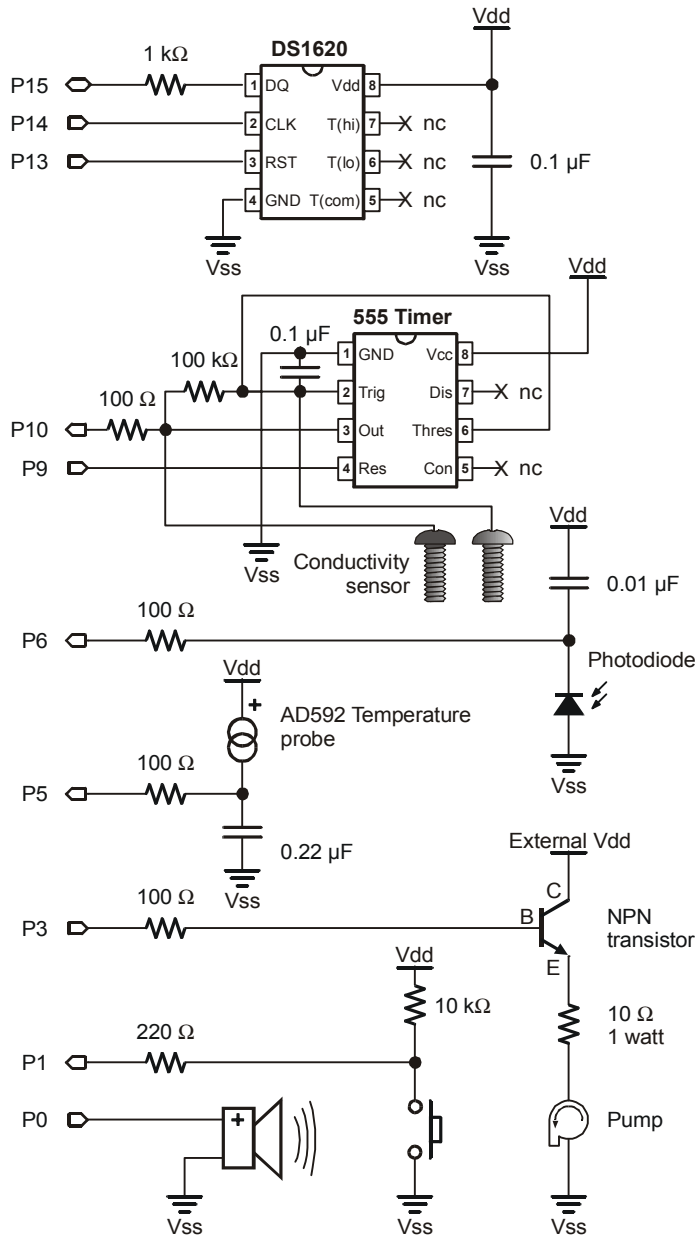
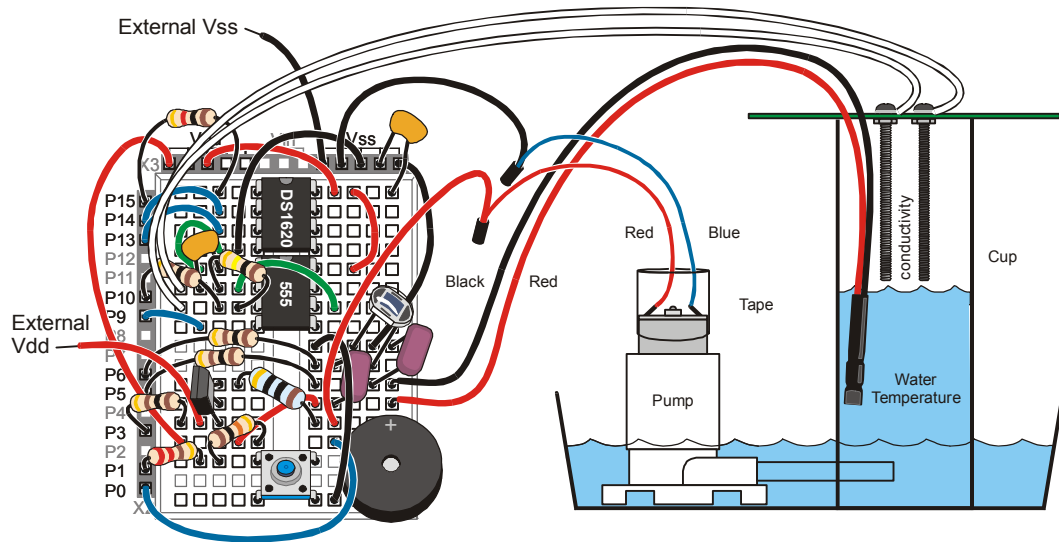

Figure 6-4
Figure 6-5: Pump Control with Transistor Wiring Diagram for the HomeWork Board
- √ Follow the schematic in Figure 6-4 and the wiring diagram in Figure 6-5 to add the transistor and pump circuit to your HomeWork Board.
- √ As shown in the schematic in Figure 6-5, connect the collector of the transistor to the external regulated 5 VDC 300 mA power supply.